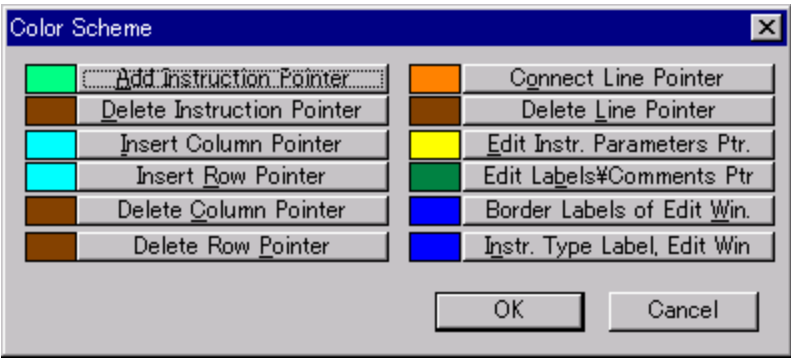

Fig. 23-1 [Color Schme] Dialog Box
- 1. Select [Option] – [Color Schme]. The dialog box shown in Fig. 23-1 appears.